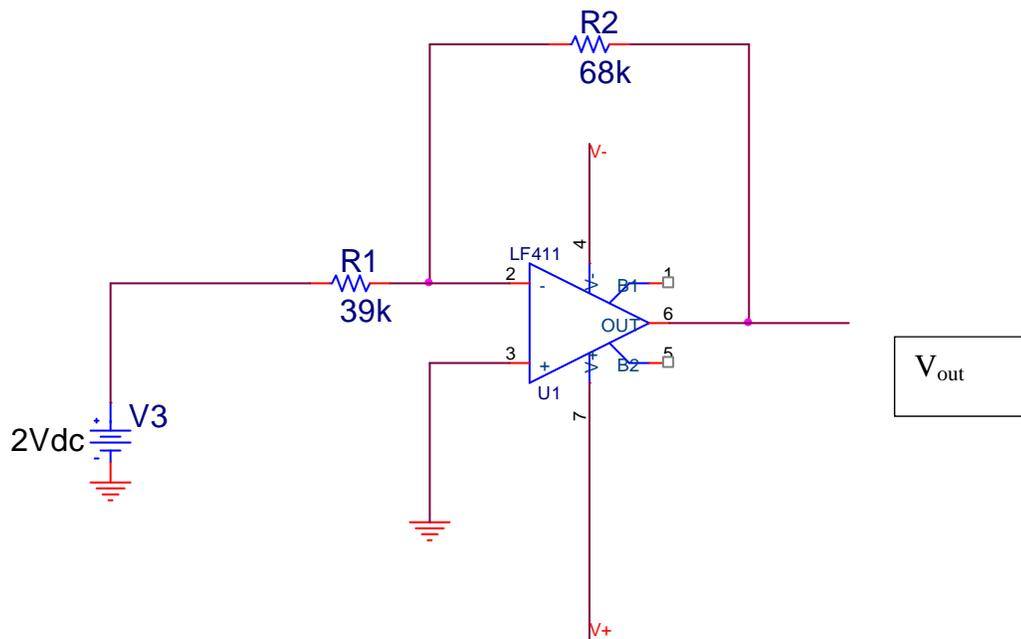

Figure 2\_1
1. Simulate the circuit shown in Fig 2\_1 using PSpice. Find the output voltage and the current in each resistor.
2. In this part, you will simulate an *integrator*. The integrator circuit is shown in Figure 2\_2 below. As we mentioned in the class, the integrator does not need R2, we have to add it for practical consideration.